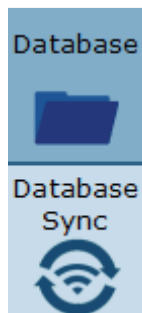
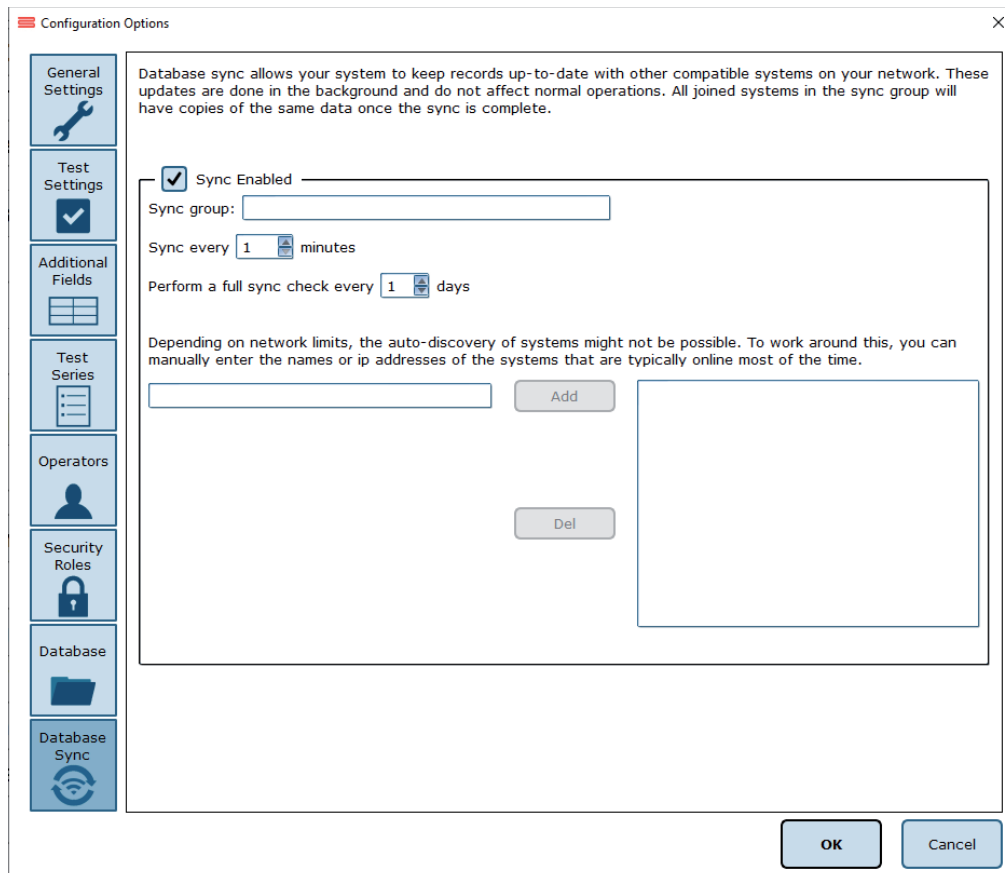

Figure 42: Database Merge Options
Figure 44: Two-way Merge Options
A merge can be performed through either a one-way (from a database archive) or a two-way (from another local or remote system) operation. The method chosen will depend upon the office's setup; typically, if two or more Bertec® computers are connected via a local area network, the two-way operation should be used. The Database Configuration page is used for one-way merging; to access the two-way merging feature, click on the database sync option on the bottom left of the screen. Figure 42 shows where this option is located. Refer to Figure 44 on page 32 if having trouble finding this option.
1. From the Database Configuration page, click on the Database Sync option (located on the bottom left of the screen). Refer to Figure 42 on page 30.
2. On the Database Sync page (shown in Figure 44), check the Enable Database Sync box.